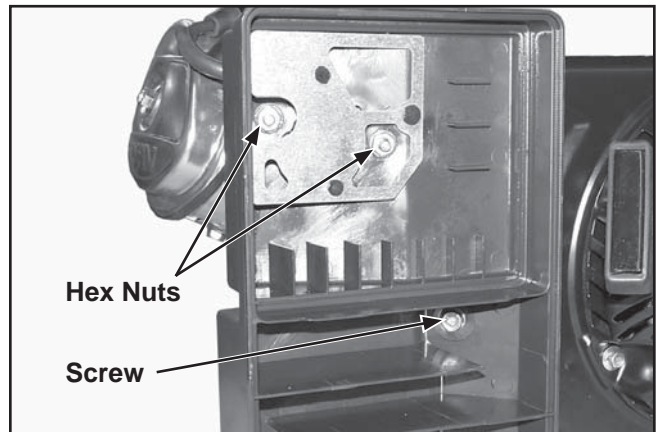

Figure 9-9. Remove Hex Nuts and Screw.
1. Remove one hex flange screw and two hex flange nuts securing the air cleaner base to the carburetor. See Figure 9-9.